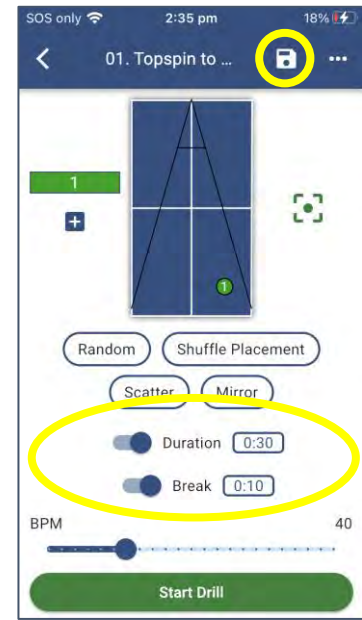

Figure 3-50
4. Press the Break Toggle Switch to move it to the ON position. (Figure 3-50)
7. Save the Drill as desired by pressing the Save button. (Figure 3-50)